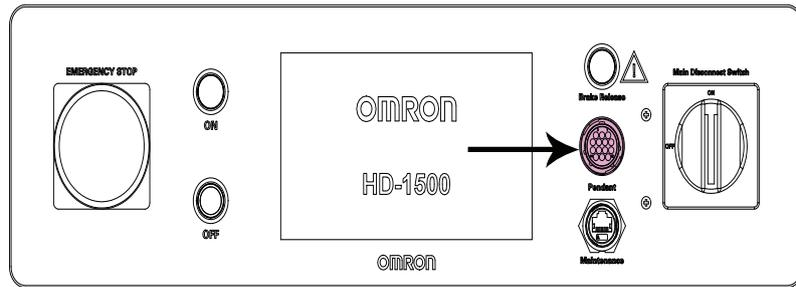

Figure 6-4. Pendant Port on the Operator Panel
The pendant port is available on the Operator Panel, located on the rear of the platform. See: Figure 6-4. .
A power cord connects the power supply box to the docking target, and transfers power ((C) in Figure 6-4. ).